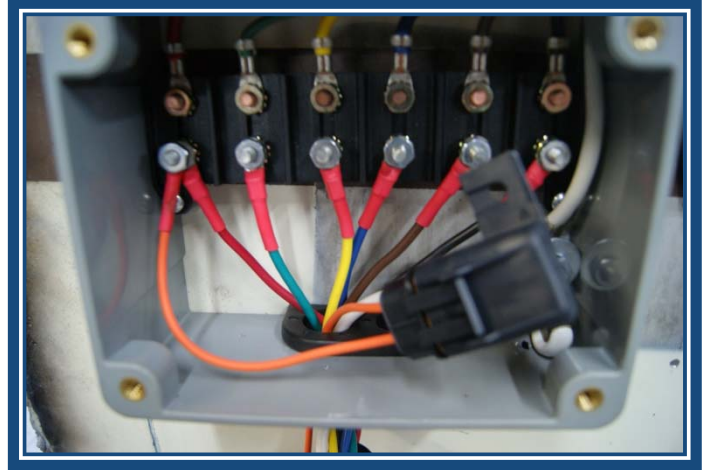

Figure 25
**Step 25:** Connect the orange fuse assembly ((F) FH-3IN1-3) from the bag kit to the 7-way brake pin(C). Tighten properly. . (See Figure 25)